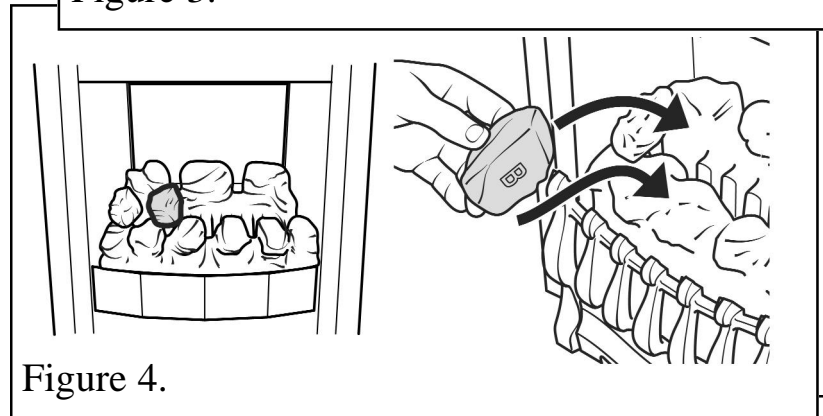

Figure 4.
**4.** Place a type “B” coal between the front and rear base coals as shown in figure 4. The letter “B” should be upright.